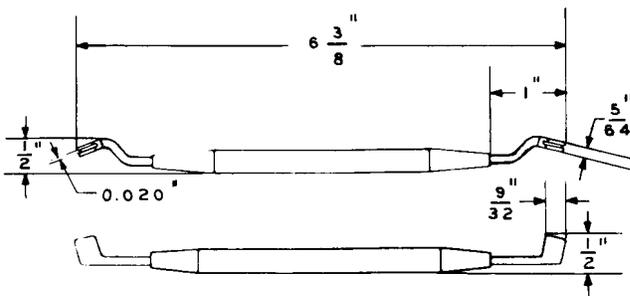

Fig. 10—415B Adjuster Tool
2.10 **415B:** The 415B tool (Fig. 10) is a spring adjuster for use on the 197- and 198-type switches and step-by-step type relays. The 415B tool replaces the 415A tool.